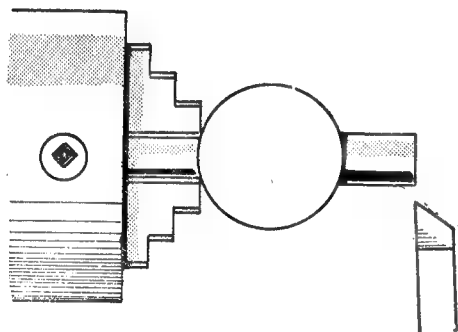

Fig. 11. Machining the body lugs
Fig. 11. General arrangement, showing removable chuck cap hood and disposition of items composing the rear thrust-bearing and terminal securing collar. (Not to scale)
■ shown in Fig. 11, and the casting is then reversed in the chuck so that the other lug can also be turned parallel. In this way, the two lugs can be turned to the finished size and length, and also made equal in diameter.